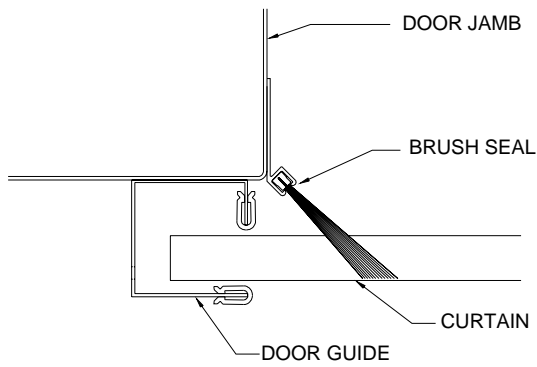

Figure 19.
14.2 Place the door in the closed position before installing the brush seal. Position brush seal so that it just touches the flat portion of the curtain. See Figure 19. Fasten brush seals to jamb every 12 inches with appropriate fasteners.